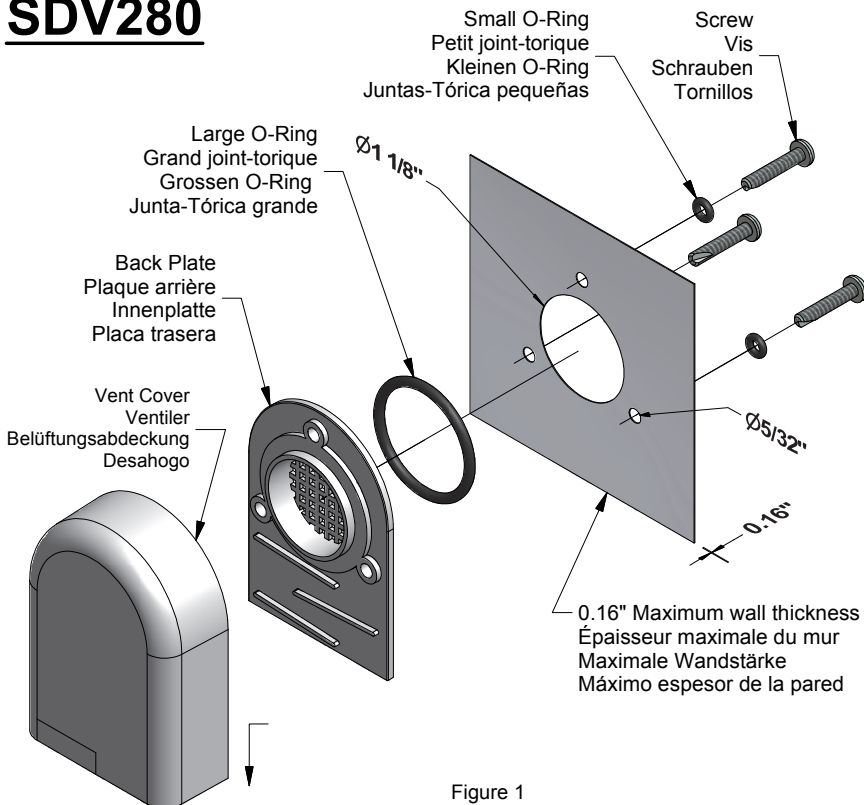

Figure 1
4. Assemble the vent cover, back plate and large o-ring in the hole pattern. Install the screws and small o-rings as shown in Figure 1. Do not over tighten!
4. Affixer le couvercle, la plaque de fond et le gros joint torique au trou  $\text{\O} 1-1/8"$ . Installez les vis et petits joints toriques tel que figure 1. Ne pas serrer excessivement!